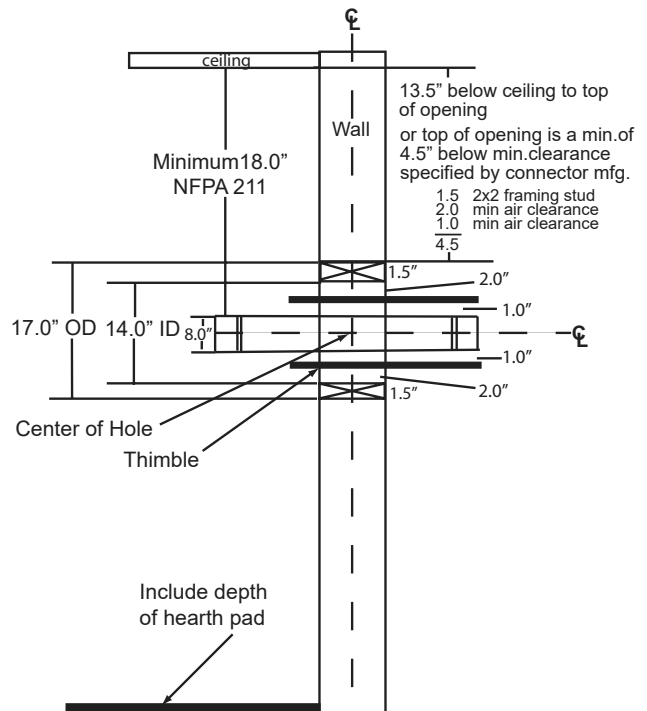

Figure 36.2
- Top of wall opening is a minimum of 13-1/2 inches (343mm) from ceiling or 4-1/2 inches (114mm) below minimum clearance specified by chimney connector manufacturer. **NFPA 211** minimum vertical clearance of 18 inches (457mm) from chimney connector and ceiling or minimum recommended by chimney connector manufacturer (**Figure 36.2**).
1. Open inside wall at proper height for the chimney connector to entry the masonry chimney (**Figure 36.2**).
3. Construct a 17 inch x 17 inch (432mm x 432mm) outside dimension frame from 2 x 2 framing lumber to fit into wall opening. Inside opening of frame should be no less than 14 inch x 14 inch (356mm x 356mm) (**Figure 36.2**).